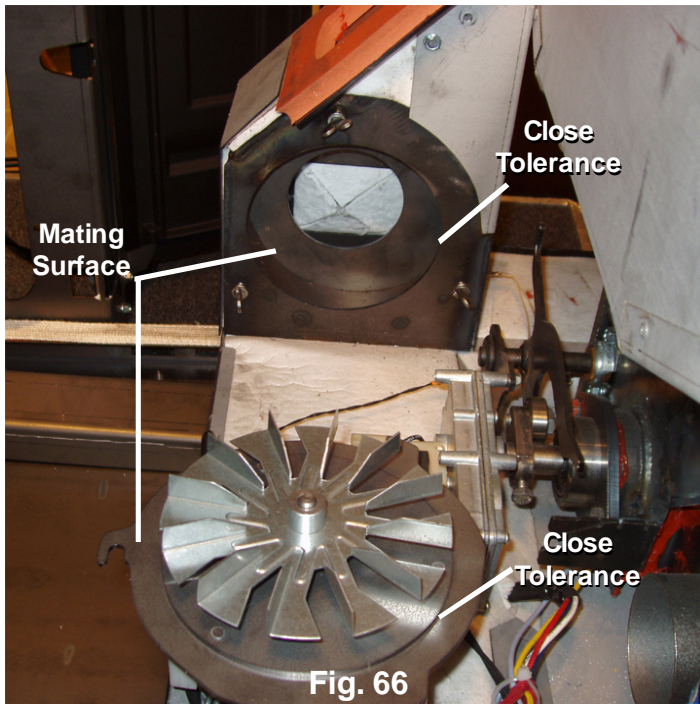

Fig. 66
- The cord on the motor is long enough to allow the motor to be set down on the black plastic fan cover. This allows for easy access to inspect and clean the area. See Fig. 66.